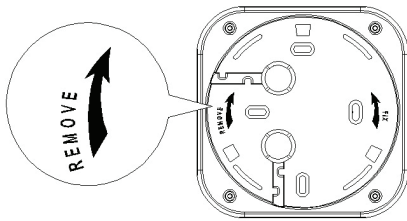

Fig. 3.
1. To separate the backplane from the detector, rotate the backplane clockwise according to the direction of the arrow (See Fig. 3 and 4).